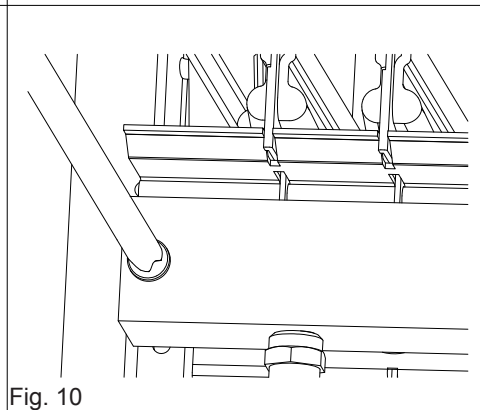

Fig. 10
- Remove the screws that hold the diffuser in place (fig. 10)